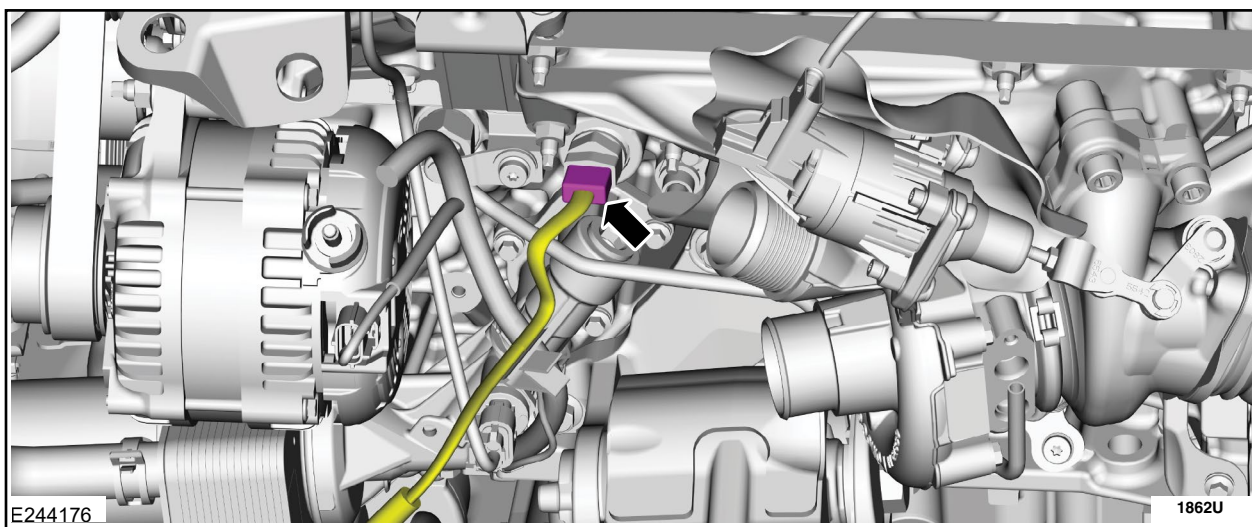

FIGURE 11
4. Disconnect the block heater electrical connector. See Figure 11.
9. Connect the *new* wire assembly to the block heater element. See Figure 11.